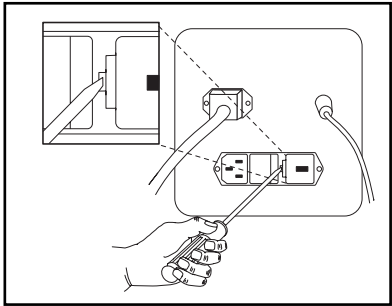

Figure 2.1
- 2. Using a flat blade screwdriver or equivalent, unlock the Fuse Drawer and pull straight out to remove from the Power Module. (Figure 2.1)